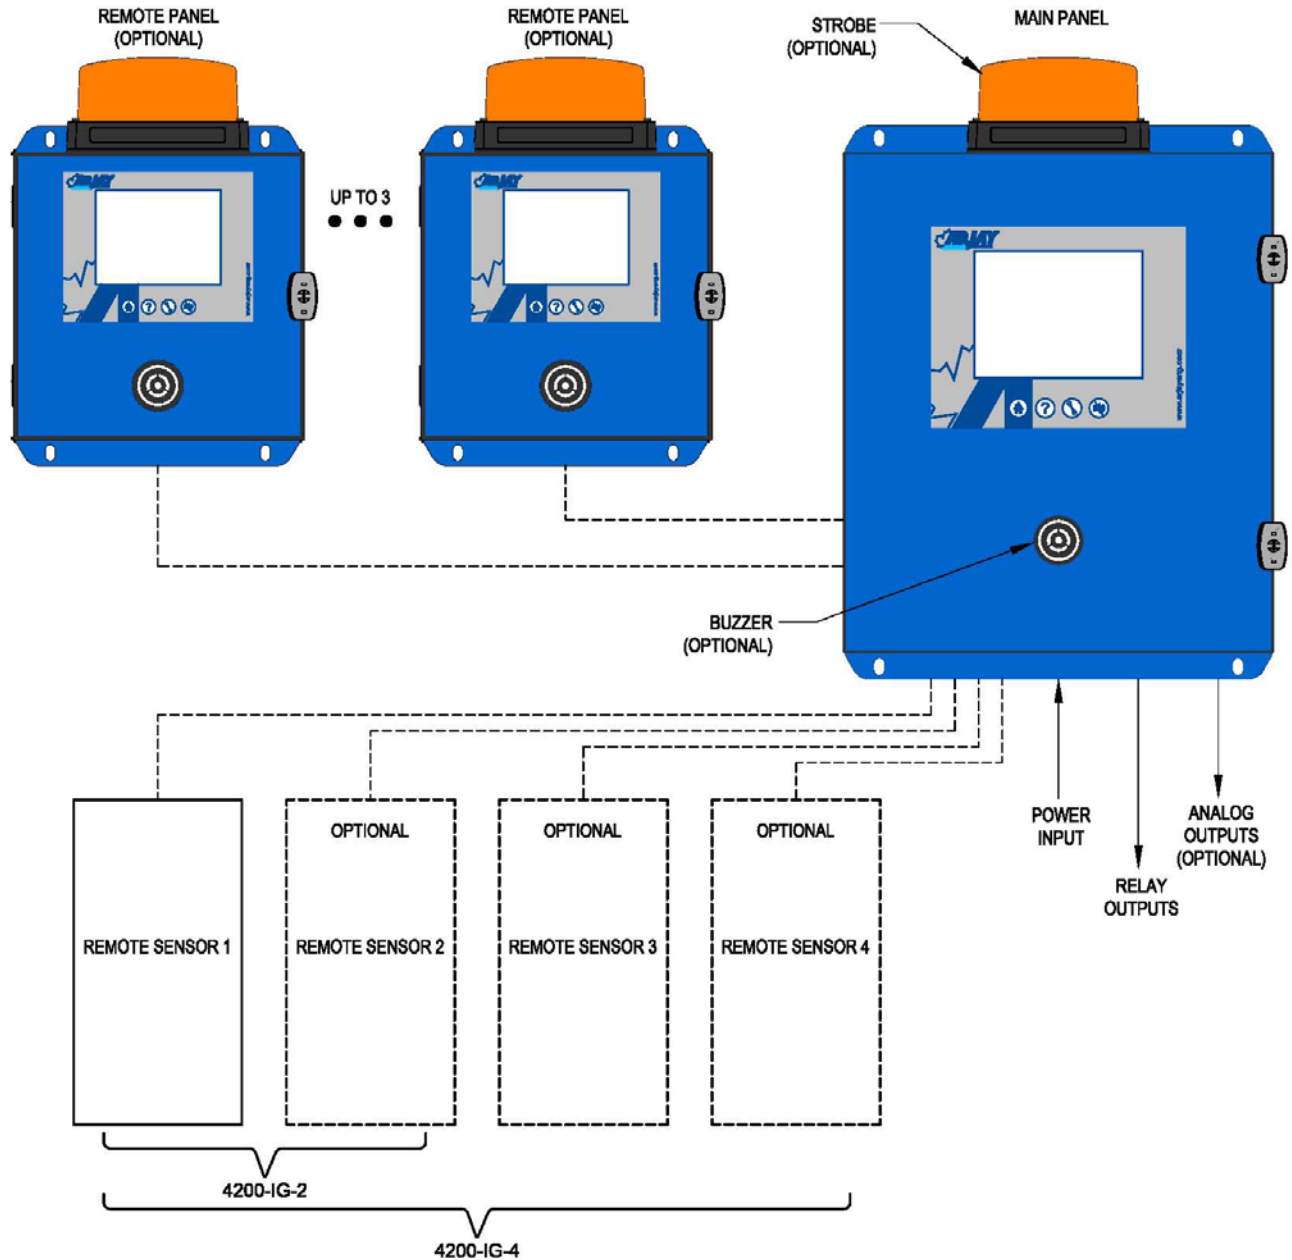

Figure 1 – System Overview
- Figure 1 – System Overview 3